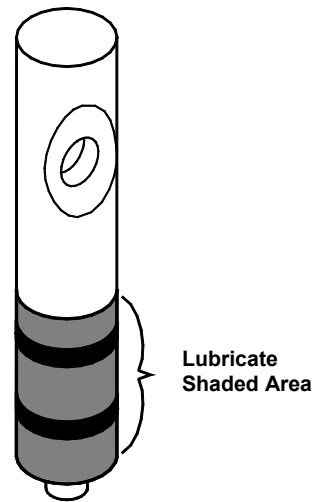

Fig. 10
- a. Install the two o-rings on the spigot plunger by rolling them onto the plunger. Seat the o-rings in the grooves. Make certain that they are not twisted. Smooth the lubricant into the grooves and over the sides of the plunger assembly. (Fig. 10)
- b. Slide the lubricated spigot plunger into the front plate (Fig. 10) Align the spigot handle slot to the front.